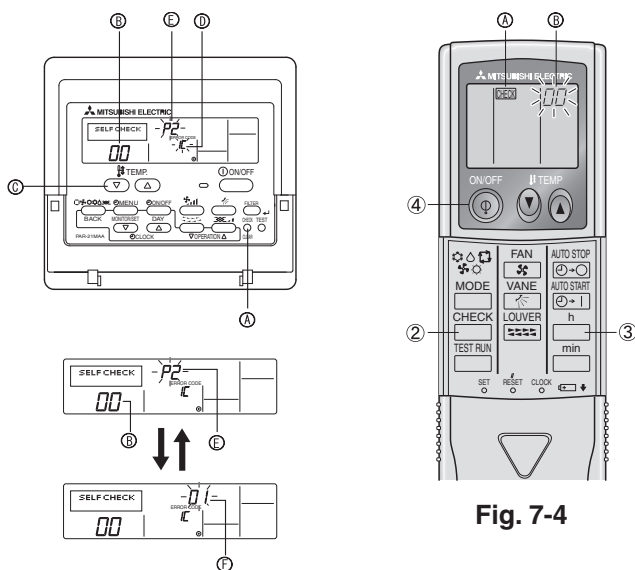

Fig. 7-3
7.3.1. Wired remote controller (Fig. 7-3)
- ① Turn on the power.
- ② Press the [CHECK] button twice.
- ③ Set refrigerant address with [TEMP] button if system control is used.
- ④ Press the [ON/OFF] button to stop the self-check.
- (A) CHECK button
- (B) Refrigerant address
- (C) TEMP. button
- (D) IC: Indoor unit
- (E) OC: Outdoor unit
- (F) Check code